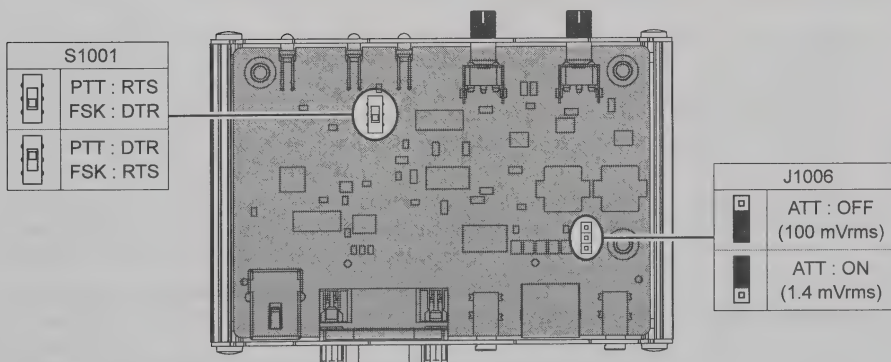

Figure 2
3. Refer to Figure 2 for the location of switch (S1001) and jumper (J1006).